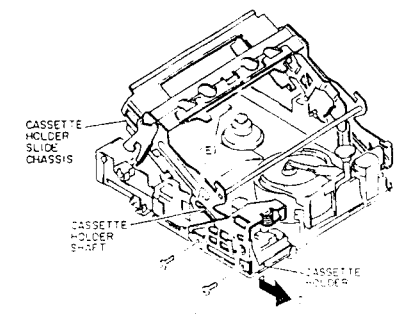

Fig. 2-43
- 1) Remove one (1) screw holding the cassette holder. (See Fig. 2-43)
- 2) Remove two (2) screws holding the cassette holder. (See Fig. 2-43)
- 3) Move engaged section (A) of the holder from the main chassis. (See Fig. 2-43)
- 4) The cassette holder shaft comes to section (C) of the cassette holder slide groove. Push the cassette holder slide chassis in to release the cassette holder shaft from the cassette holder and sub chassis.
- 5) Move the cassette holder in the direction of arrow (D). (See Fig. 2-43)
- 6) The cassette holder shaft comes to section (E) of the cassette holder slide groove. Push the cassette holder slide chassis in to release the cassette holder shaft from the cassette holder and sub chassis.